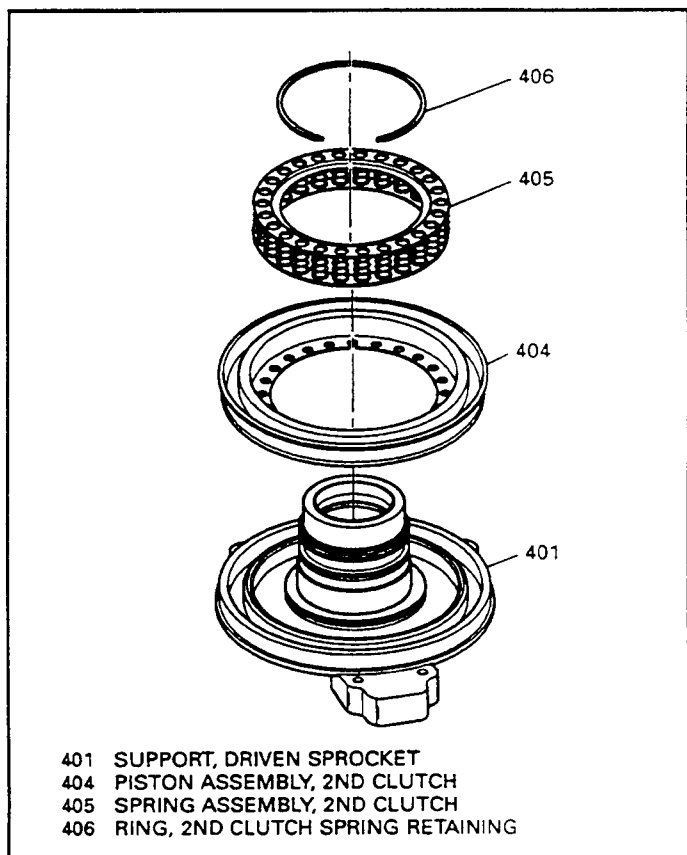

Figure 157
4. Install the 2nd clutch piston (404) into driven sprocket support with a twisting motion, as shown in Figure 157.
5. Install the 2nd clutch return spring assembly (405) with inside step facing up, as shown in Figure 157.